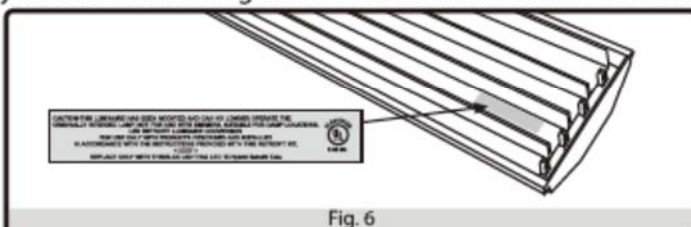

Fig. 6
5. Locate the end of the LED T8 Tube where the LIVE END label is printed and ensure that this end of the tube is plugged into the LIVE lampholder socket as shown in Fig. 6. Turn the bulb in the direction such that the heat sink strip faces up into the fixture.